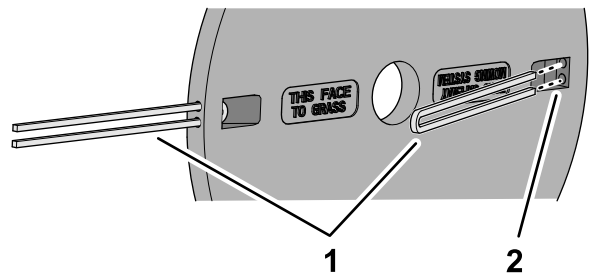

Figure 26
2. Replace the existing cutting lines with 2 equal lengths of new cutting line as shown in Figure 26.